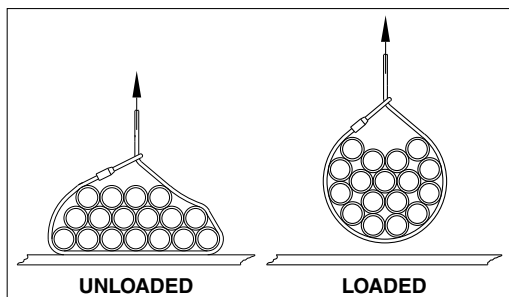

Figure 2
2. Before installing Bundle Clip, apply initial load by lifting the bundle and clearing the support, producing a tight choke. Repeat as necessary until the bundle package is in the most compact position (See figure 2, Loaded). **Keep hands and feet from under load.**
5. When disconnecting, the load should be clear of the stable support (See figure 2, Loaded). Remove Bundle Clip. Stay clear of the load as the bundle is lowered and the load is removed from the sling.